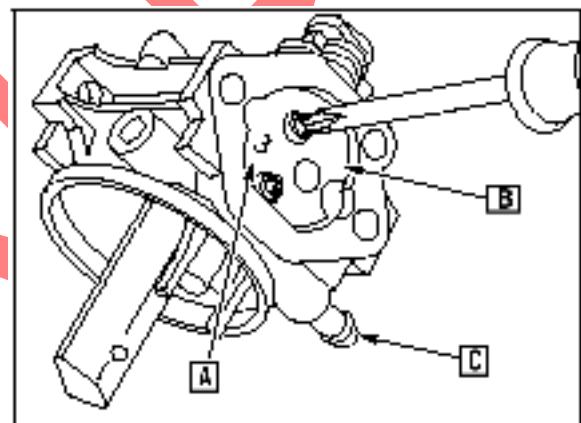

Fig. 85
Place choke plate (A) on choke shaft with stamped number(s) (B) facing opposite the fuel inlet (C). Attach with screws ([D] Fig. 85).